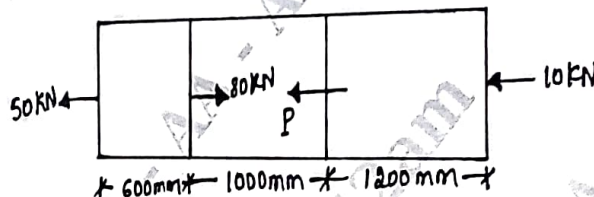

Fig.Q2(a)
- b. A brass bar having cross section area of 1000 mm^2 is subjected to axial forces as shown in Fig.Q2(a). Calculate the force 'P' necessary for equilibrium of bar. Determine the total Elongation of the bar. Take $E = 1.05 \times 10^5 \text{ N/mm}^2$.